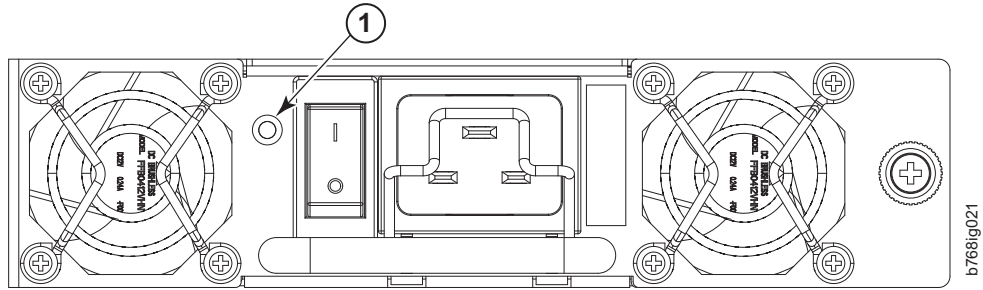

Figure 28. Power supply LEDs
1. Check the LED indicator on the power supply (see Figure 28 on page 75). The LED patterns may temporarily change during POST and other diagnostic tests; for information about how to interpret the LED patterns, see Table 10 on page 75.